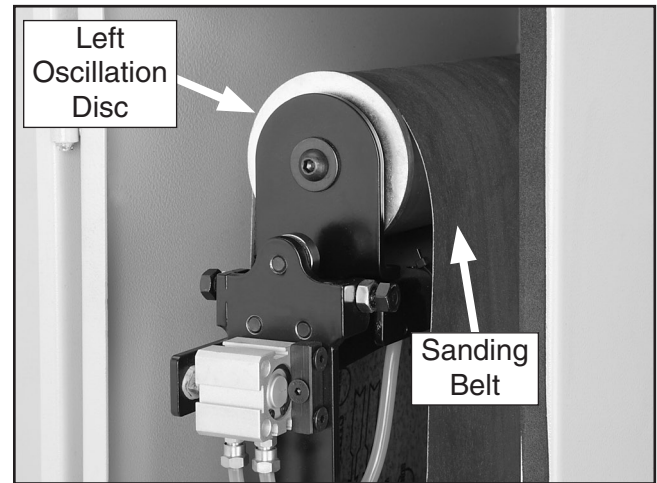

Figure 20. Correct installation position of sanding belt.
6. Slide the new sanding belt onto the upper sanding roller and sanding drum, then position it on the upper sanding roller so that it is just past the left oscillation disc, as shown in **Figure 20**.